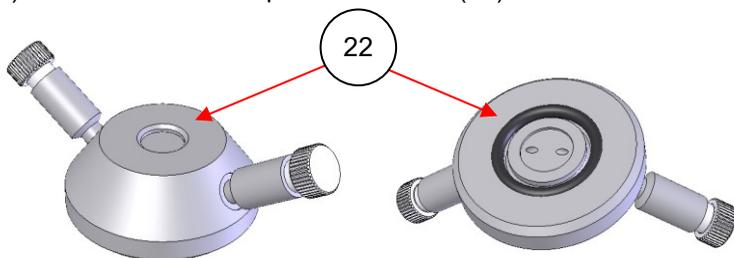

Figure 10-3: Luer Lock Liquids Anvil
A Luer Liquids Flow Anvil (22) is also available for longer duration experiments with liquids. Figure 10-3 shows top (left) and underside (right) views of the Luer Liquids Flow Anvil (22).